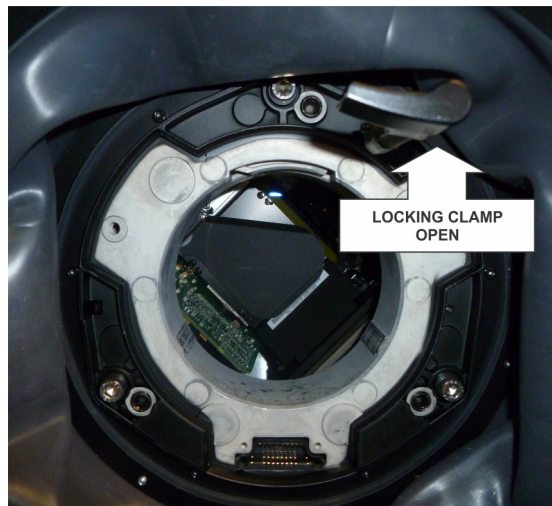

FIGURE 2-1
1. Rotate the lens clamp clockwise to the OPEN position, see *Figure 2-1*.